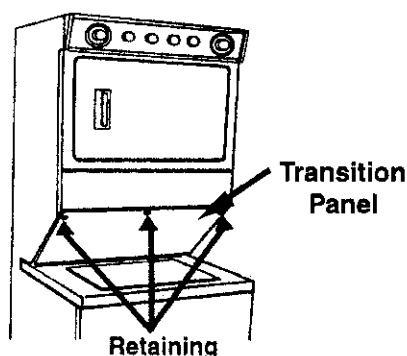

Fig. 11
1. Remove the Transition Panel by removing the three (3) retaining screws. Tip the panel down and lift it out. (Fig. 11)